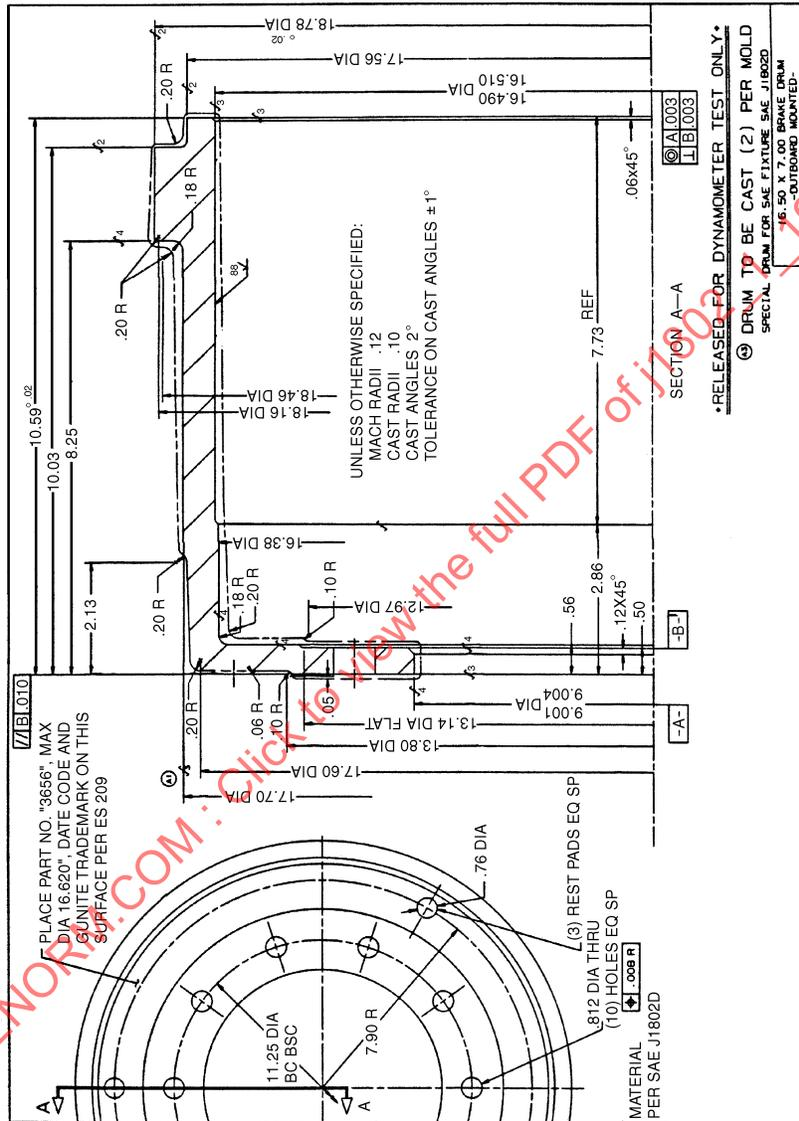

FIGURE C1—BRAKE DRUM
| | Appendix C Component Sketches (Figures C1 through C12) | 4 |
| 1. Brake Drum (See Figure C1) | RM— | Gunite 3656 |
C.1 Component Sketches—See Figures C1 through C12.